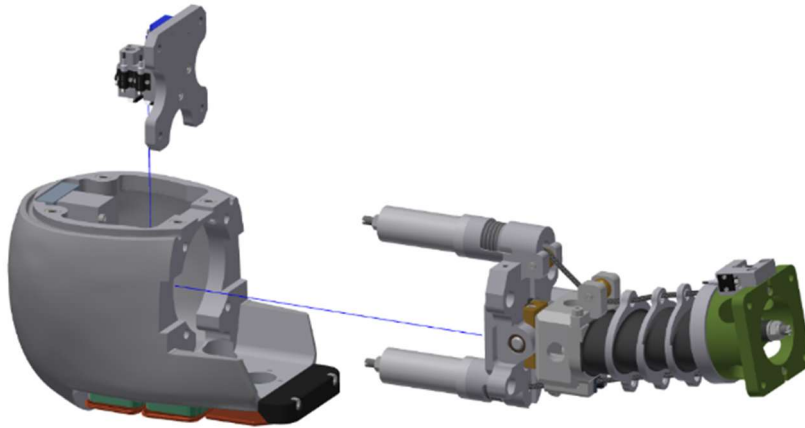

Figure 3-9. Head, neck, and sensor mounting plate
3.2.8 Separate the head, neck, and sensor mounting plate (474-1031) (Figure 3-9).